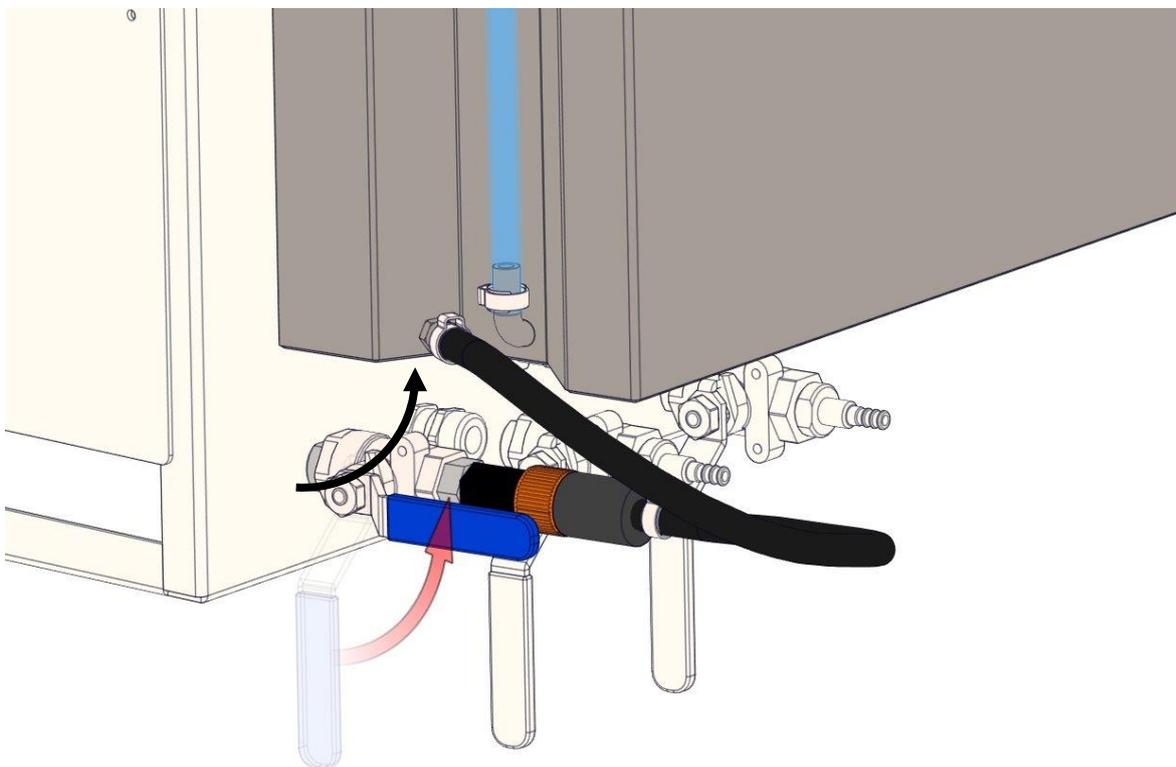

Figure 5
4. Open the petrol valve (Figure 5).